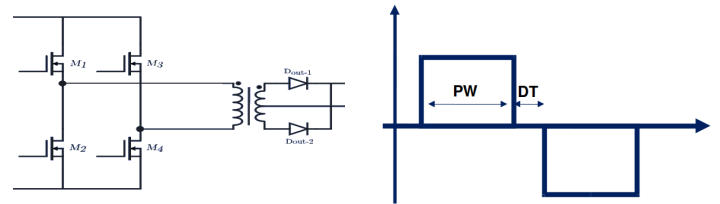

Figure 1. a) Full bridge topology with center tap. b) Transformer voltage waveform
The Full-Bridge converter is typically modulated with PWM or Phase Shift modulations. This modulations apply to the transformer a waveform as presented in Figure 1. The input voltage is applied during the PW in positive and negative (in order to avoid saturation of the transformer) and a zero interval called dead time (DT) is common in these modulations.